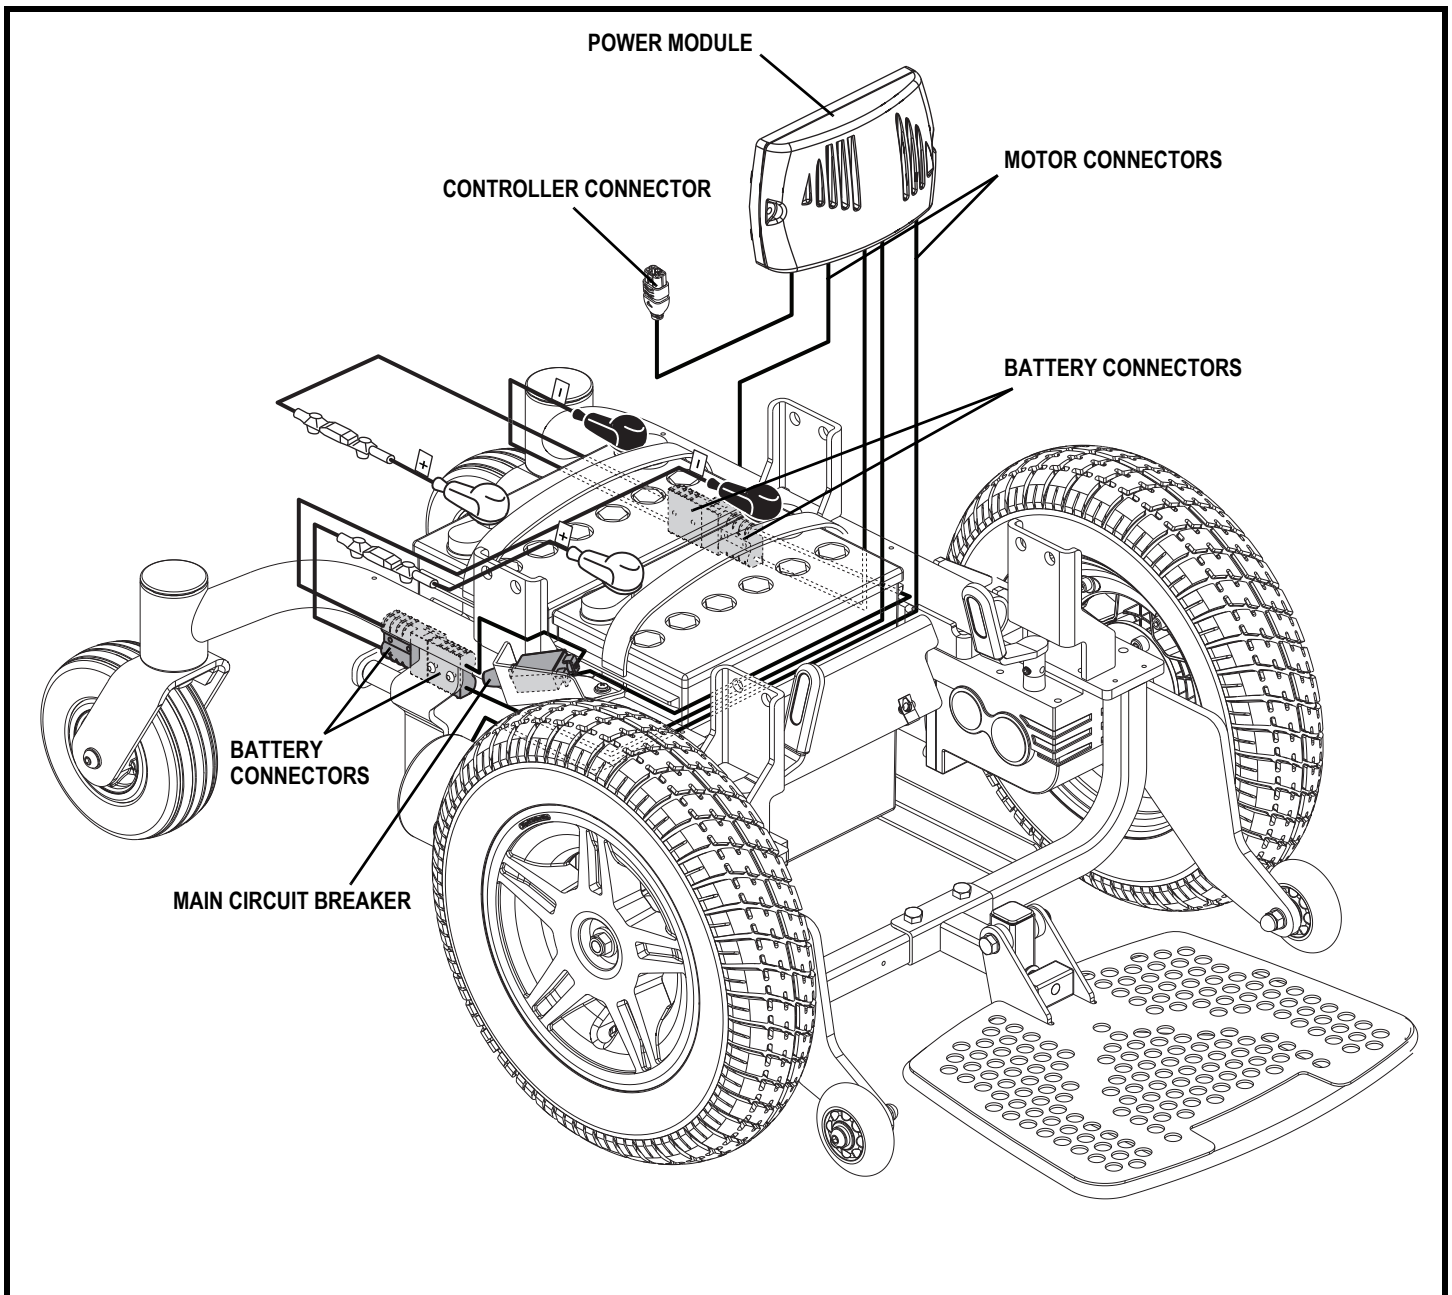

Figure 3. Jazzy Elite Series Electrical Components
The electrical components are located either on or inside the power base. The main circuit breaker is located on the right side of the power base. The power module is located under the front cover. See figure 3.
Main Circuit Breaker: The main circuit breaker is a safety feature built into your power chair. When the batteries and the motors are heavily strained (e.g., from excessive loads), the main circuit breaker trips to prevent damage to the motors and the electronics. If the circuit trips, allow your power chair to “rest” for approximately one minute. Next, push in the circuit breaker button, turn on the controller, and continue normal operation. If the main circuit breaker continues to trip repeatedly, contact your authorized Pride Provider. See figure 3.
5. Plug the controller connector into the front of the power base. See figure 3.
3. Unplug the controller connector(s) from the power base. **See figure 3.**